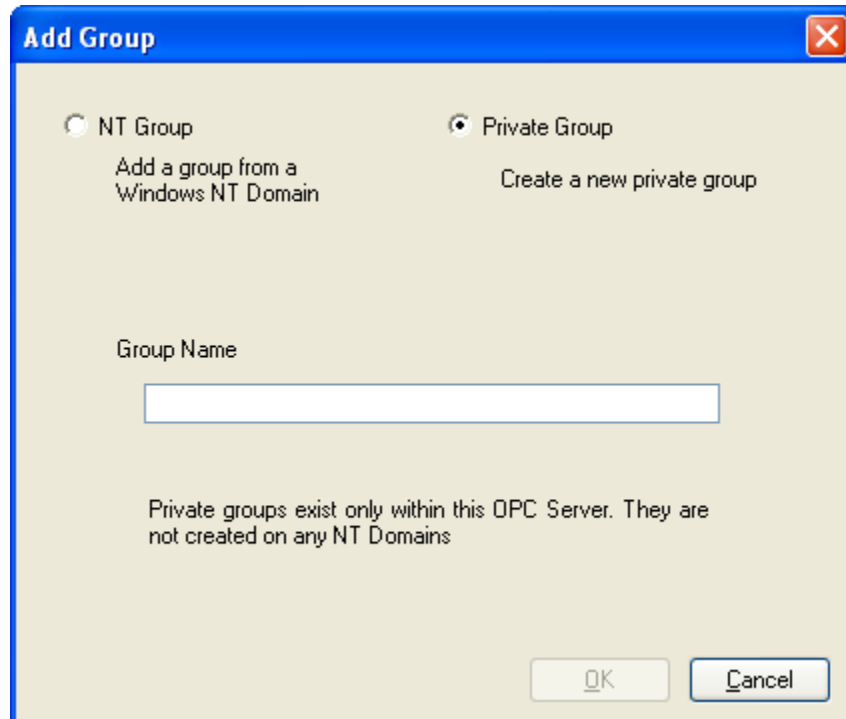

Figure 69 - Add Group Window (Private)
3. Select the **Private Group** option button (Figure 69).